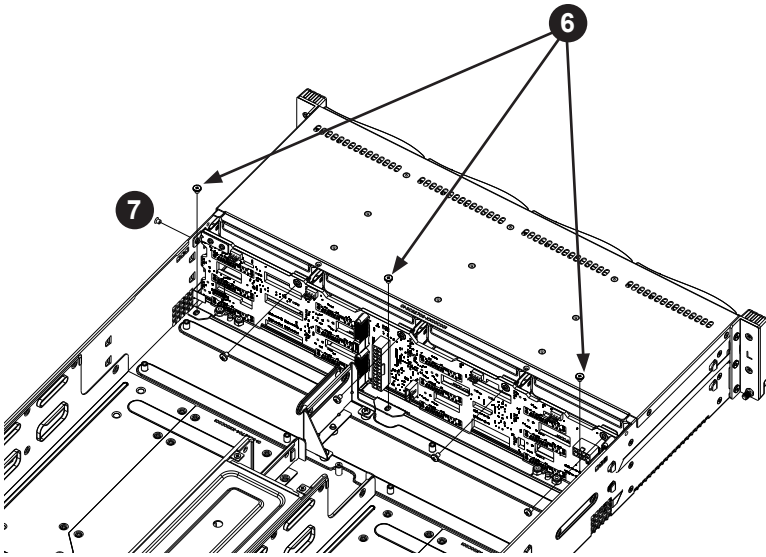

Figure 6-7. Loosening the Spring Bar Screws in the Floor of the Chassis
7. Remove the side screw from the side of the chassis (Figure 6-7).